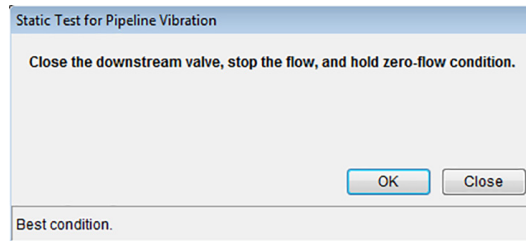

Figure 4.3—Static Test for Pipeline Vibrations test results
3. Upon completion, look for the results in the bottom left corner of the screen, as shown in Figure 4.3, page 25.